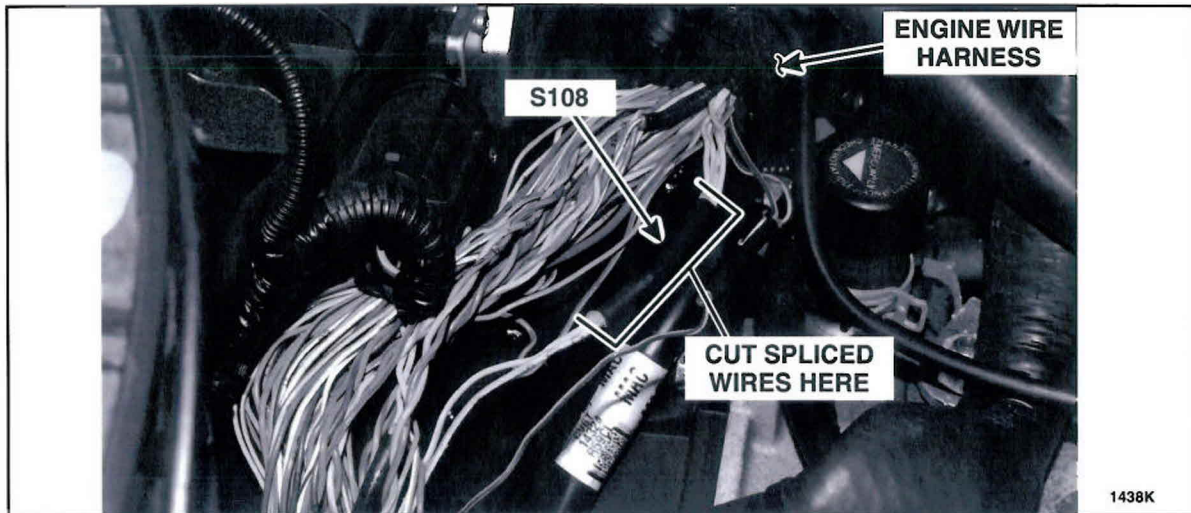

FIGURE 13
15. Cut the wires on each side of the splice S108 and strip off 19 mm (0.75 in) of insulation from each of the Yellow/Green wires. See Figure 13.